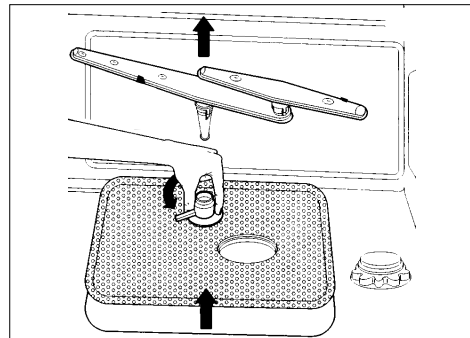

fig. 12
- Take out the lower spray arm by pulling it vertically upwards (see fig. 12).